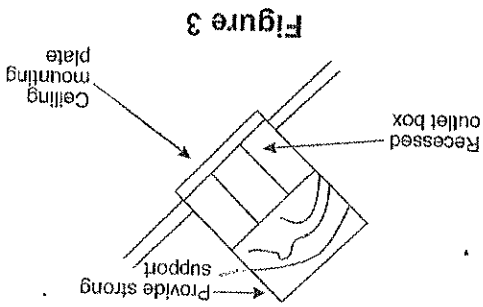

Figure 3
3. Re-install the top plate of housing and tighten 4 screws (see Fig. 3).
Note: You may need a longer downrod to maintain proper blade clearance when installing on a steep, sloped ceiling. (Fig. 3)